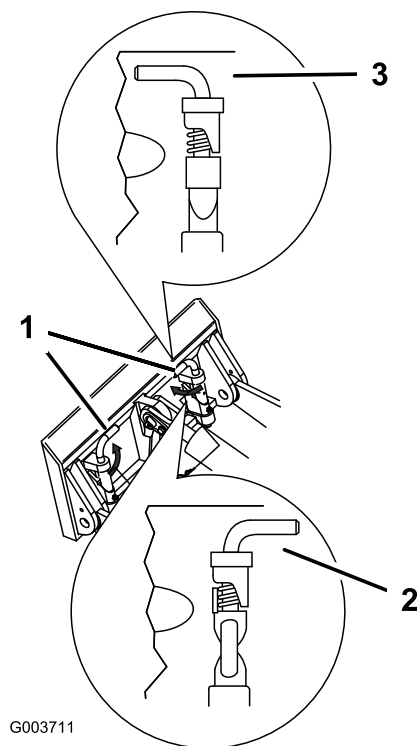

Figure 17
7. Engage the quick-attach pins, ensuring that they are fully seated in the mount plate (Figure 17).